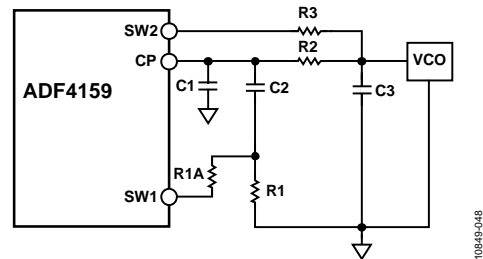

Figure 54. Fast Lock Loop Filter Topology 2
- Connect an extra resistor (R1A) directly from SW1 (see Figure 54). The extra resistor must be selected such that the parallel combination of an extra resistor and the damping resistor (R1) is reduced to 1/4 of the original value of R1.